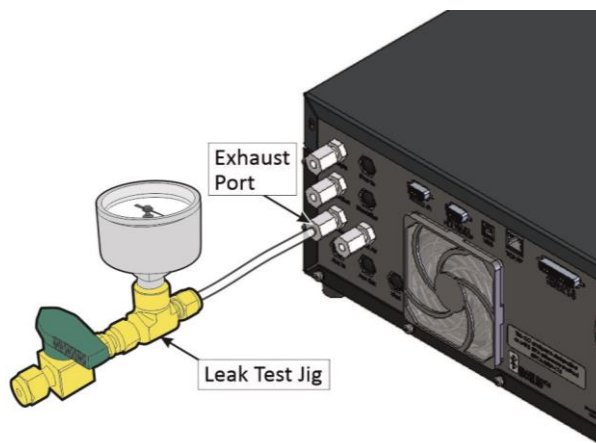

Figure 135 – Leak Test Jig on Exhaust Port
3. Refer to Figure 135. Connect a leak check jig to the Exhaust Port of the instrument.